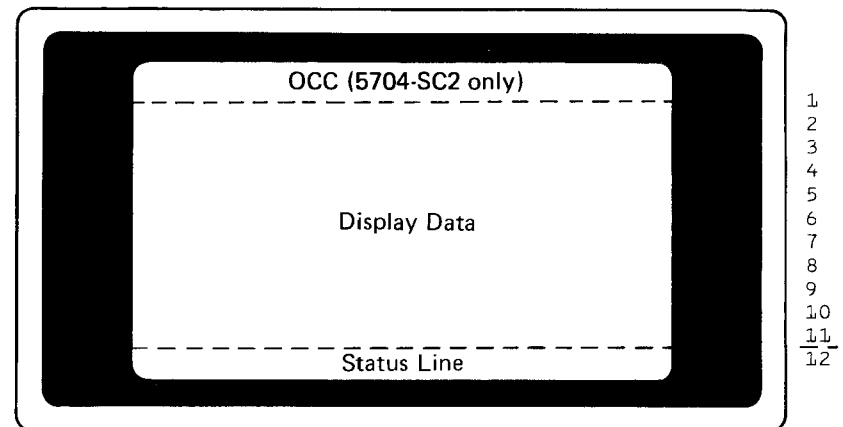

Figure 14. Display Format
- PF10 – This key tells the system that you are ready to enter OCC (operator control commands). If you have the System Control Program 5704-SC1, the system responds by formatting the screen in the system format and displays ENTER COMMAND. If you have the System Control Program 5704-SC2 and the system is in display format, you can enter OCC on the top line as shown in Figure 14. For more information on the system display format, see *Display Operations* later in this chapter. For more information on OCC, see *Chapter 15. Using Operator Control Commands (OCC)* in *Part 2. System Operation*.
- Display format (Figure 14)
Figure 14 is used when a display operation is in progress in response to a DISPLAY command. No system messages can occur during a display operation. The status line displays ENTER DISPLAY REQUEST when the CR1 screen is in the display format. During display operations, the first five positions of line 1 are used for controlling the display. To cancel the display, enter a C in the first position of line 1, then press ENTER. To print the contents of the display or put the display screen image in the system history area, enter one of the following, then press ENTER: